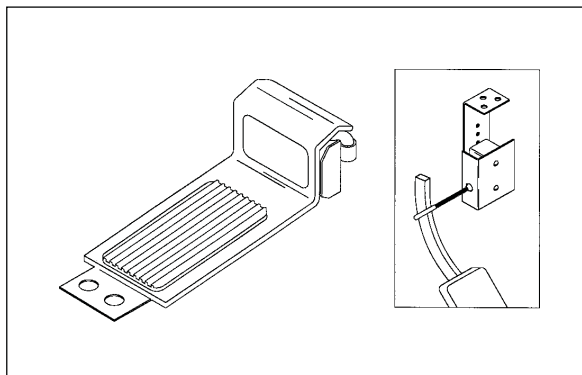

Figure 4-1
2. Mount the clutch switch in a convenient location near the clutch pedal so that movement of the clutch pedal will contact the clutch switch actuator arm. See Figure 4-1.